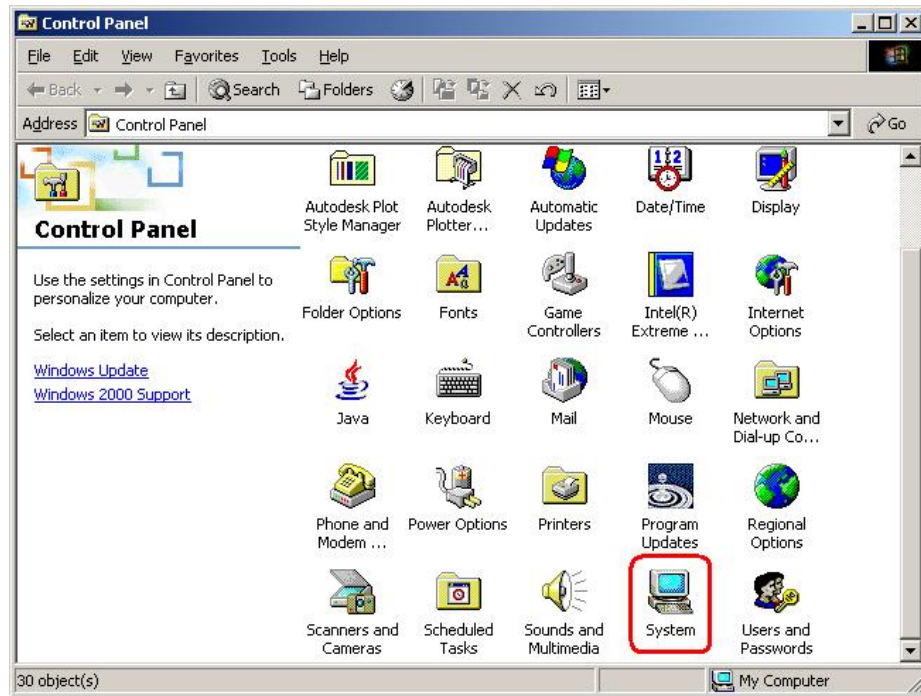

Figure 7-14: Double Click the System Icon
Step 2: Double click the **System** icon (Figure 7-14).